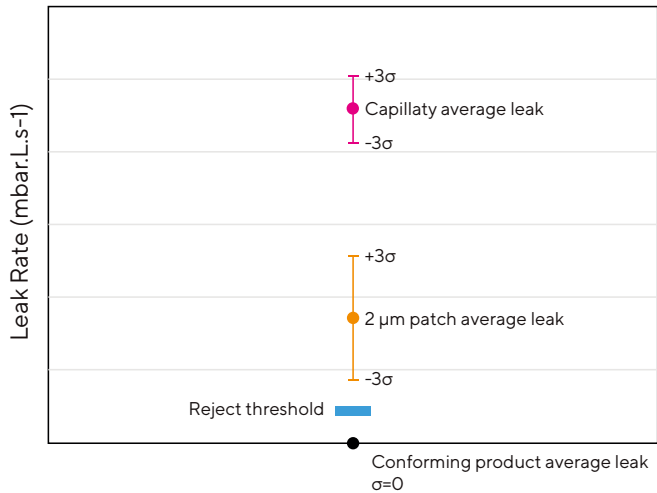

Figure 6: Leak rate chart as part of reject threshold determination
- 2) The determination of the reject threshold between worst case of positive controls and negative controls (see figure 6).